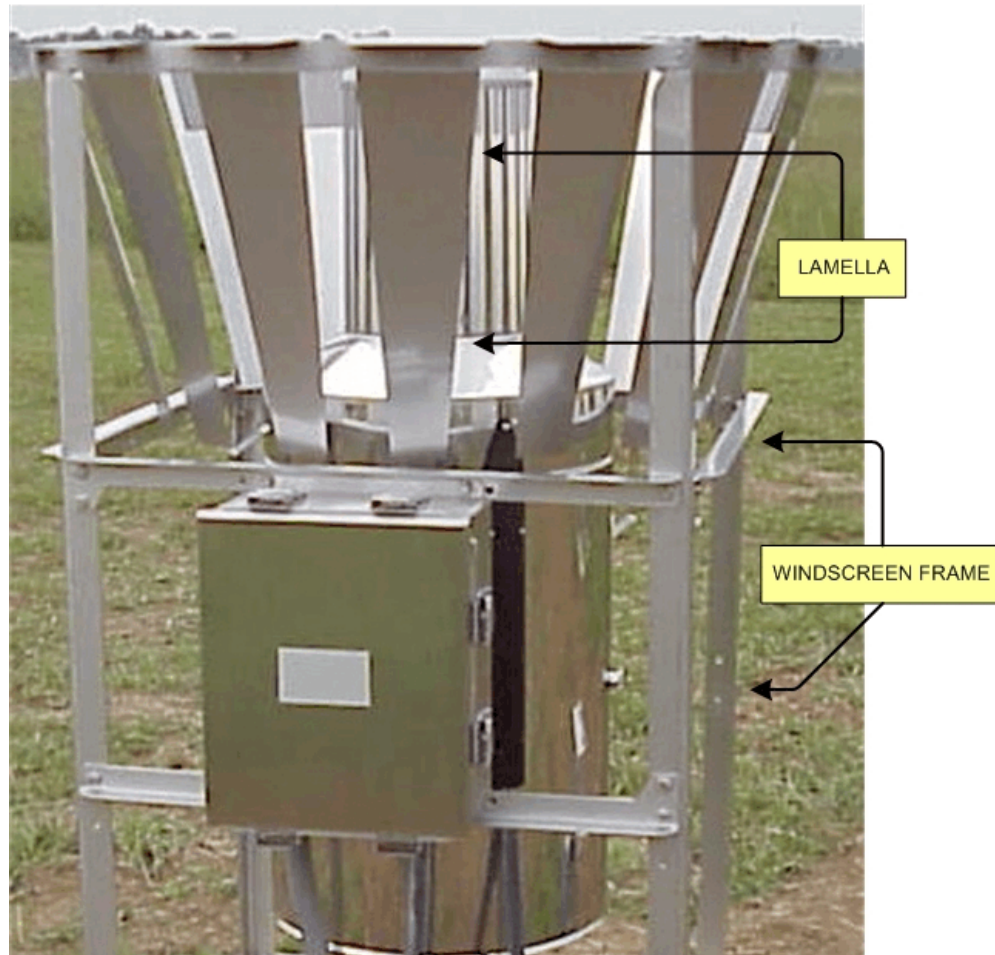

Figure 8
61. Assemble the windscreen by attaching the lamellas to the inside of the metal windscreen mounting frame provided with the AWPAG (see **Figure 8**).